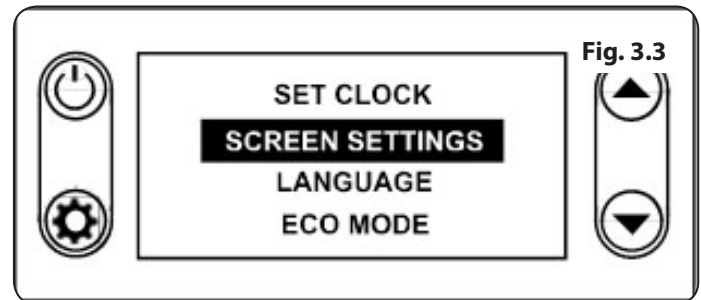

Fig. 3.3
1. Press 'MENU' and navigate down using the scroll arrows until SCREEN SETTINGS is highlighted (**Fig. 3.3**).